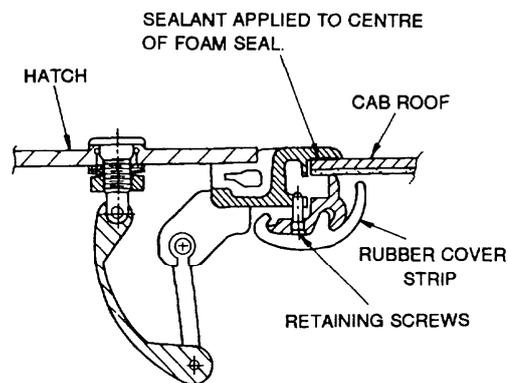

Figure 233 Roof Hatch Applying Sealant
- d. Inspect all the sealing surfaces thoroughly and apply Bostick 2638 (Figure 233).